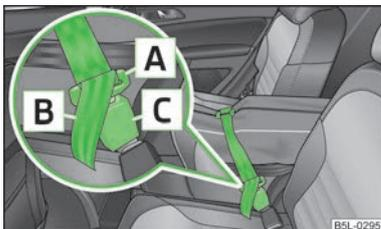

Fig. 85
- Insert the lock tongues [\[A\]](#) » Fig. 85 in the belt locks of the rear middle seat belt [\[C\]](#), first of all on the one side and then on the other side.